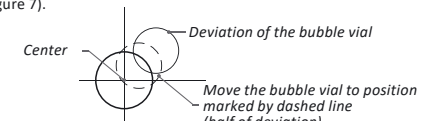

Figure 7
c) Rotate the lifting screws to move the bubble vial halfway to the center (Figure 7).
d) Turn 2 adjusting screws to adjust the position of the bubble vial (Figure 7).